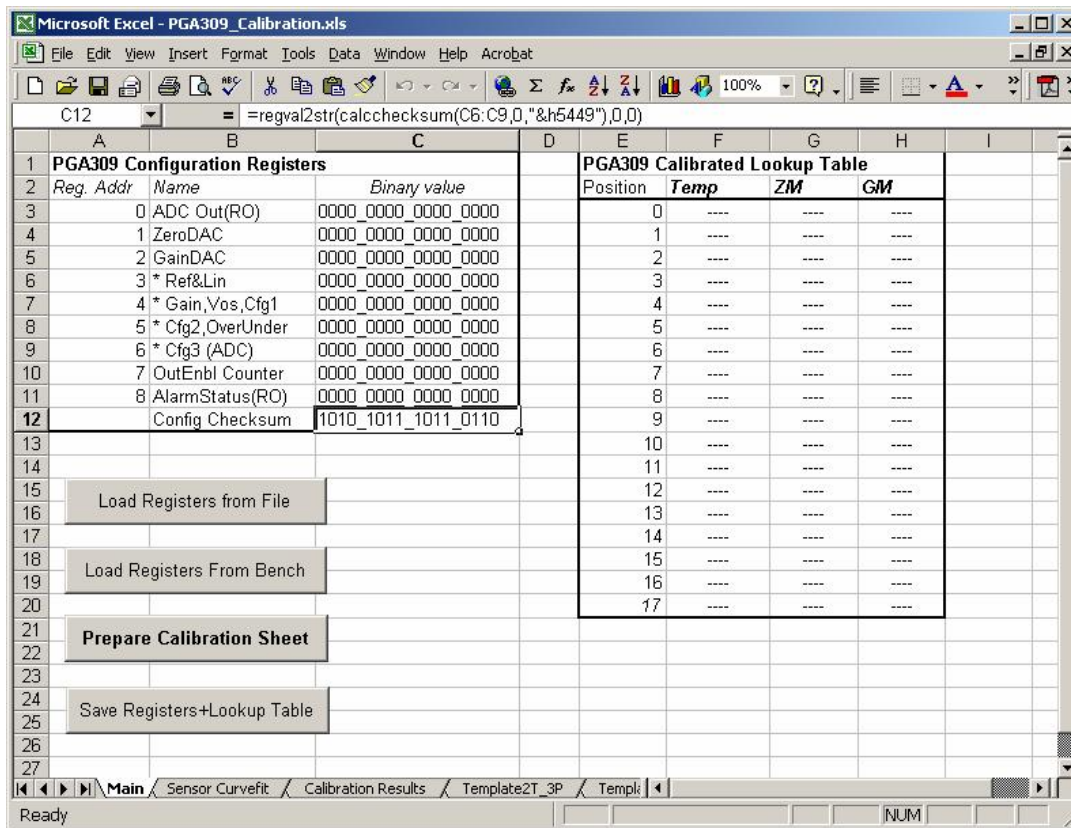

Figure 28: “Main” Worksheet
1) The “Main” Worksheet is shown in Figure 28. It contains the current values of the PGA309 register table, the lookup table and the control buttons.